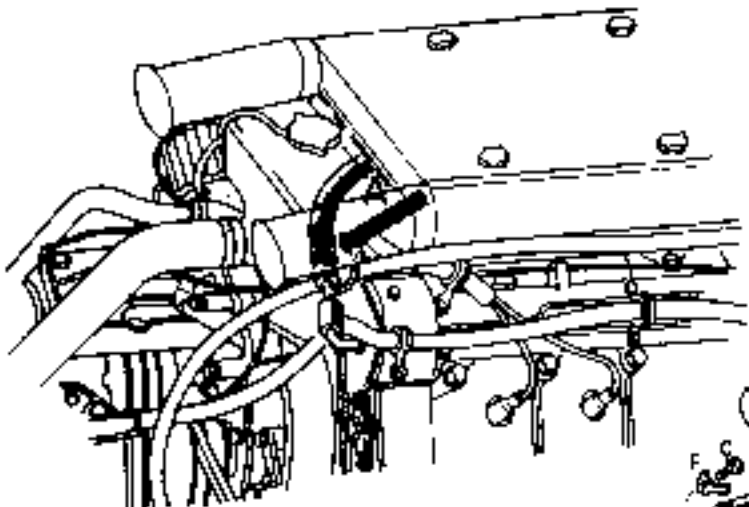

Fig. 32
In detta tubazione esiste una munita scappiamma A (Fig. 32)
The toxic gases present within the engine are aspirated off by means of a special tubing which is permanently under vacuum (Fig. 36), and these gases are finally burnt by the engine itself. There is a flame arrester (A) in the exit tubing (Fig. 32).